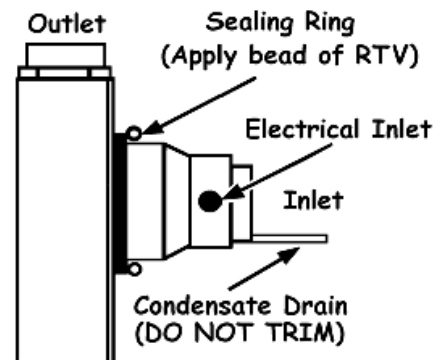

Figure 5
**(Use Figure 5 as a Guide for 3-6):**
- 7) Secure unit to sidewall with four (4) #6 x 2.0" drywall screws provided. Use nylon washers provided under the screw heads to prevent marring the finish.